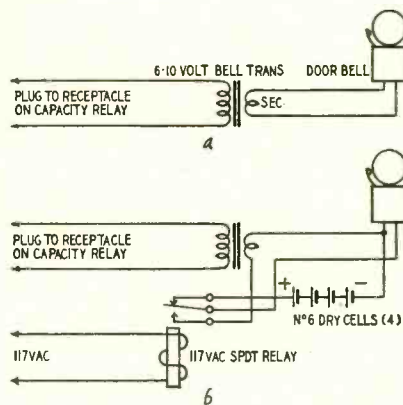

Fig. 2—(a) Bell-alarm unit for use with capacity relay. (b) Auxiliary alarm circuit. Dry cells ring alarm bell if a.c. power-line wires are cut.
After adjusting the relay to your satisfaction, you can connect it to a doorbell alarm as shown in Fig. 2-a or 2-b. In Fig. 2-a the alarm bell is operated from the power line. If an intruder should manage to cut the
power lines outside the house, the alarm will not ring. In Fig. 2-b the power for the alarm circuit comes from four No. 6 dry cells in series. If the power fails, the relay will open and start the alarm ringing.
If you are an apartment dweller in fear of having an intruder enter through a window on a fire escape, this little gadget will do much to reassure you. All you need do is place the antenna in a loop around the window casing or connect it to an ungrounded wire window screen. Connect the doorbell alarm as shown in Fig. 2 and your fears are over. In some installations, it may be possible to connect the antenna directly to the fire escape so the alarm sounds the instant anyone places a foot on it. In one installation, this
- Optional parts (Fig. 2) 1—6-10-volt doorbell; 1—6-10-volt bell transformer; 4—No. 6 dry cells; 1—a.c.-operated relay, 117-volt coil, s.p.d.t. contacts; line cord and plug.